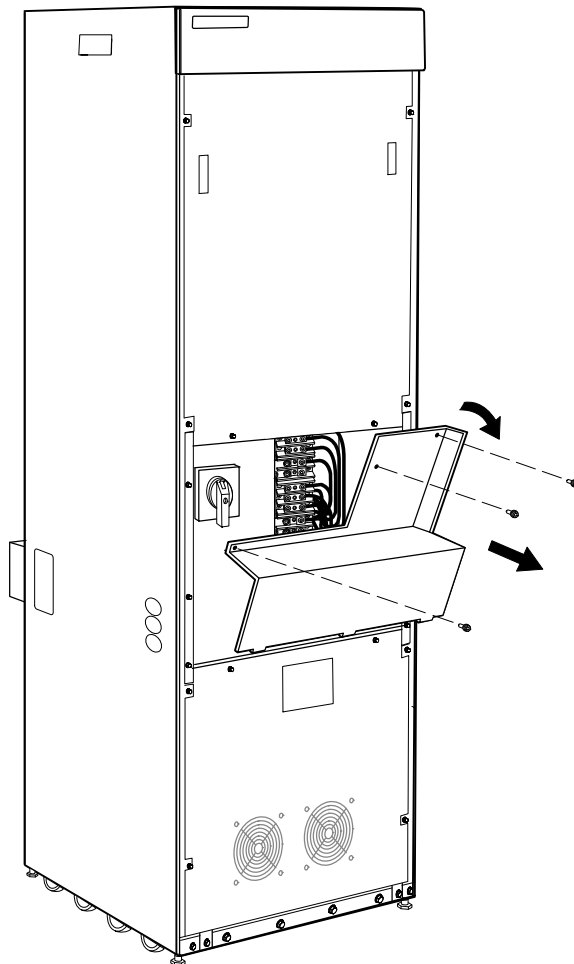

Figure 13. Removing the Options Cabinet Wiring Access Cover
11. Remove the Options Cabinet wiring access cover and retain (see Figure 13).